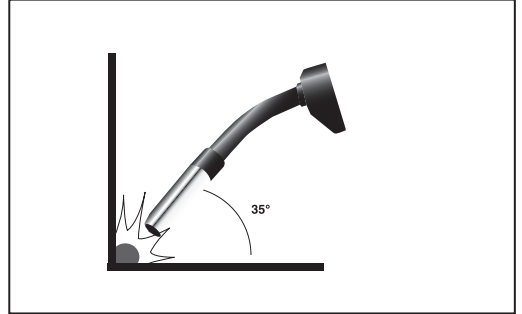

FIG. 8
8.3 MIG WELDING PRINCIPLES – FIGS. 8 – 9